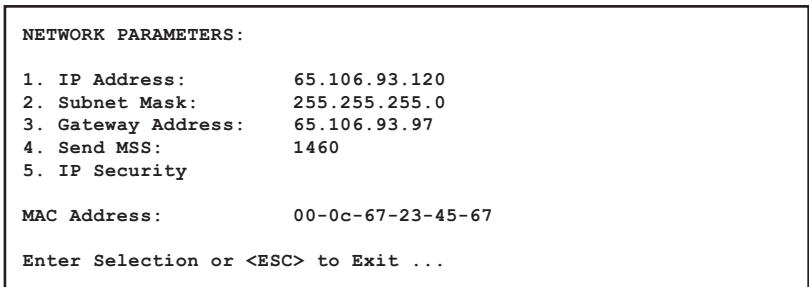

Figure 5.8: Network Parameters Menu - Text Interface
**Text Interface:** Type **/N** and press **[Enter]**. The Network Parameters Menu will be displayed as shown in Figure 5.8.